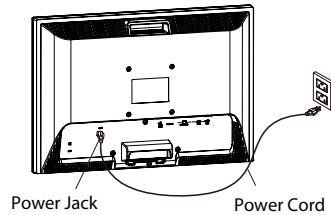

Figure1-6
5. Connect the power cord to the LCD Monitor.(See Fig. 1-6)